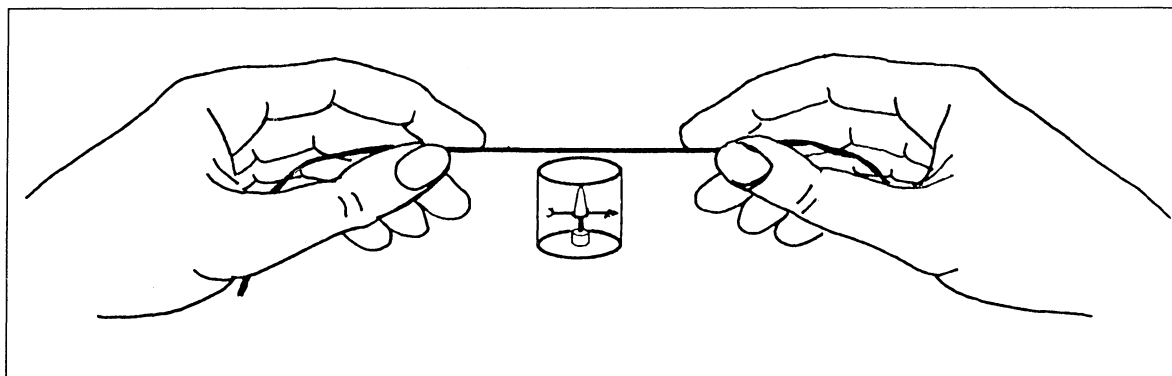

Fig. 2 Aligning a conductor (before connecting current) in the direction of a magnetized needle.
- Turn the rastered socket panel so that the connecting lead is more or less aligned with the direction of the magnetized needle. Straighten the lead. (► Fig. 2)